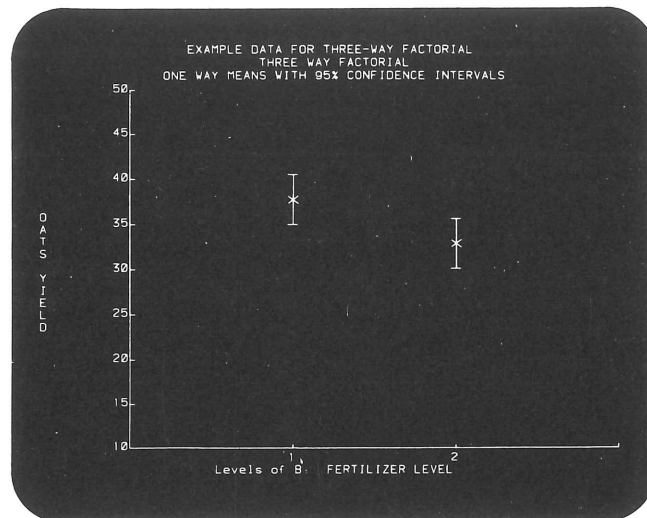

Figure 14. Confidence Intervals for One-Way Means.
4. Plot one-way means (see Figure 14).